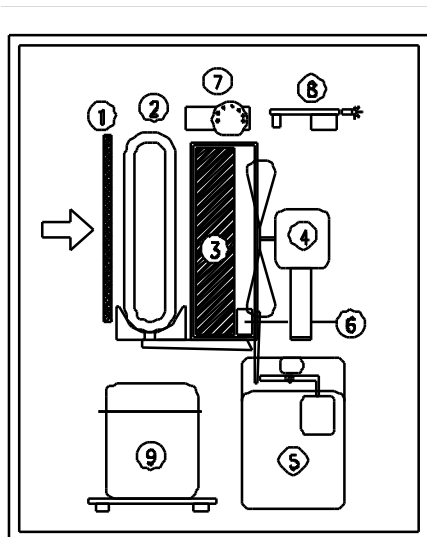

Fig. 1
With reference to the drawing (fig. 1), the air is drawn in through the back side of the dehumidifier, then it passes through the **filter** (1), through the aluminium refrigerated coil or **evaporator** (2), again through the heat-exchanger or **condenser** (3). Finally, the **motor fan** (4) expels the air back into the room through the front grille. The condensed water is collected in the **tank** (5). A **micro-switch** (6) stops the machine when the water in the tank reaches the correct level by raising the water float lever. The **humidistat** (7) starts the functioning of the dehumidifier when the humidity is higher than the preset level. An **electronic circuit** (8) controls the defrosting and prevents the **compressor** (9) repeated starts within too short a time by delaying each new start.